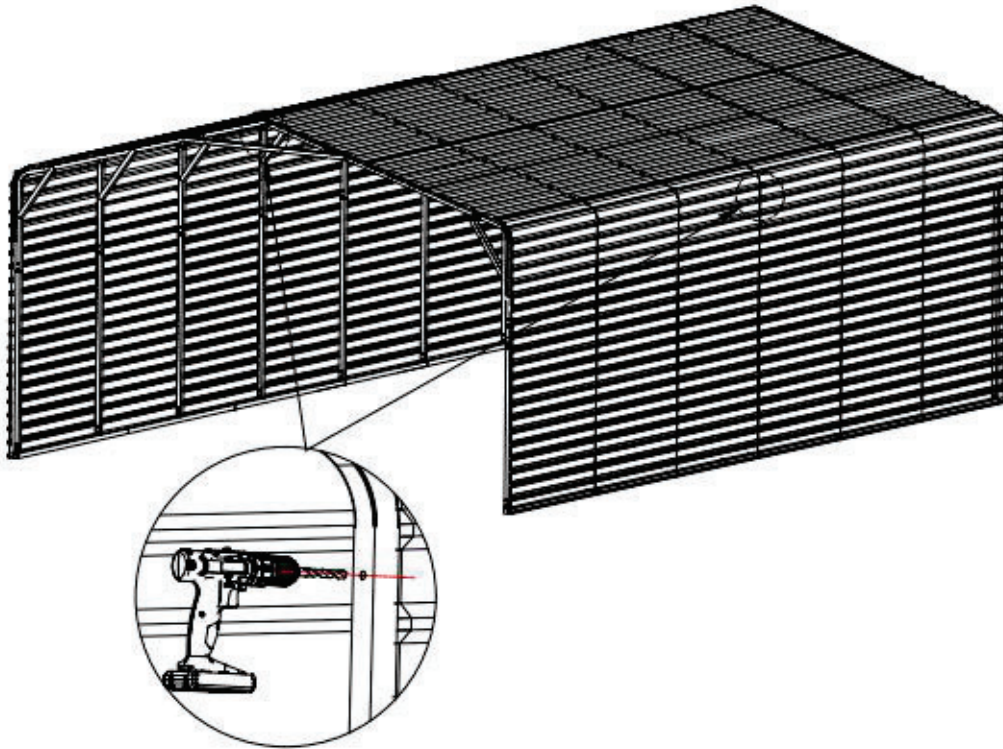

Figure 13
- Drill holes from inside to outside where the middle truss has holes, through the thin metal sheet (refer to figure 13).